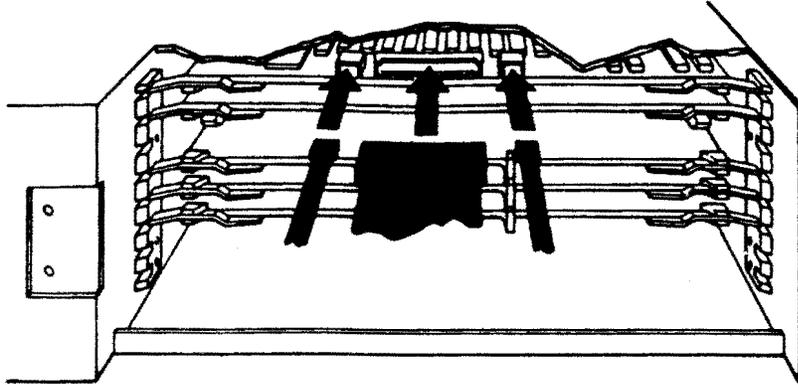

Figure 6-6: Module Cable Replacement
3. Slide the module partially into the slot, and reconnect any cables removed from the old module (Figure 6-6).